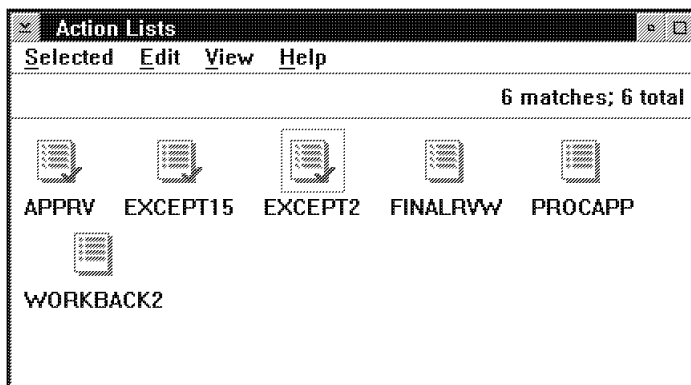

Figure 21. Action Lists Container Window
In Work Management Builder, each action list is an object that is represented by an action list icon. These action list objects are defined and displayed in the Action Lists container window. A sample Action Lists container window is shown in Figure 21.
1. Double-click on the Action Lists icon in the Work Management Builder window. You can also select the Action Lists icon, then select **Open** from the **Selected** pull-down. You see the Action Lists container window shown in Figure 21 on page 36.